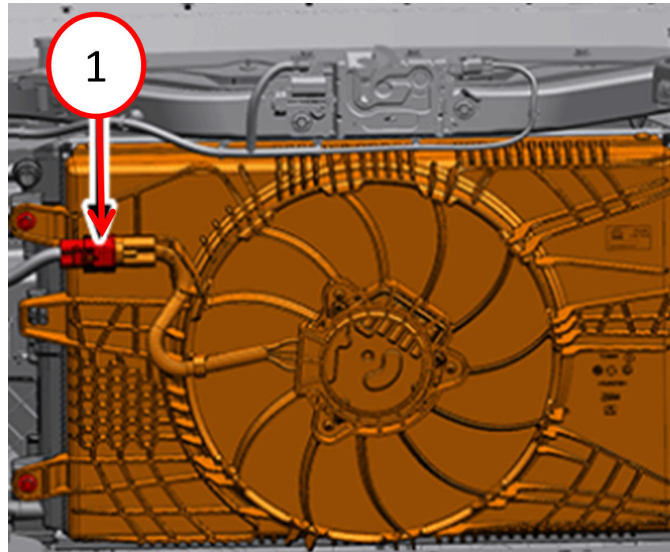

Fig. 1
4. Disconnect the cooling fan wire harness connector Fig 1.
22. Connect the cooling fan wire harness connector Fig 1.